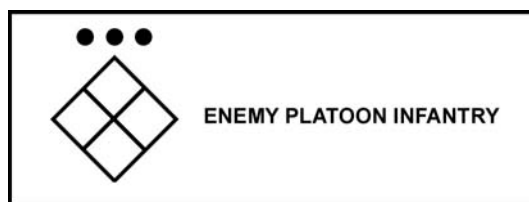

Figure 6. Enemy unit.
e. Enemy units are depicted in red or by double lines (Figure 6).